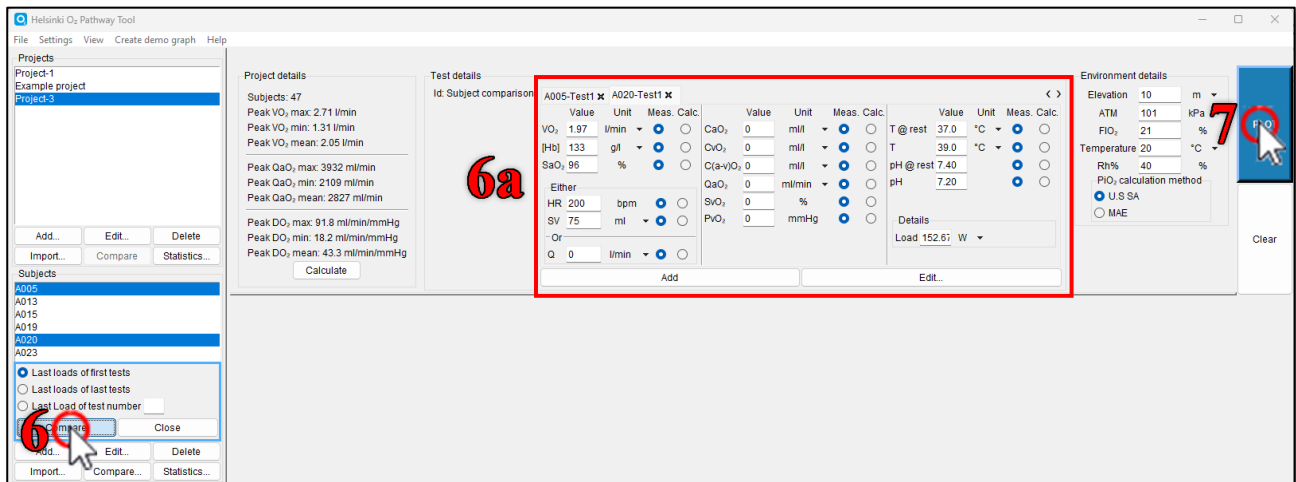

Figure 44
6. Select content for comparison and click the **“Compare”** button (Figure 44).
- (a) Test details module is updated with separate loads for every selected subject (Figure 44).
7. Click the **“Plot”** button (Figure 44).